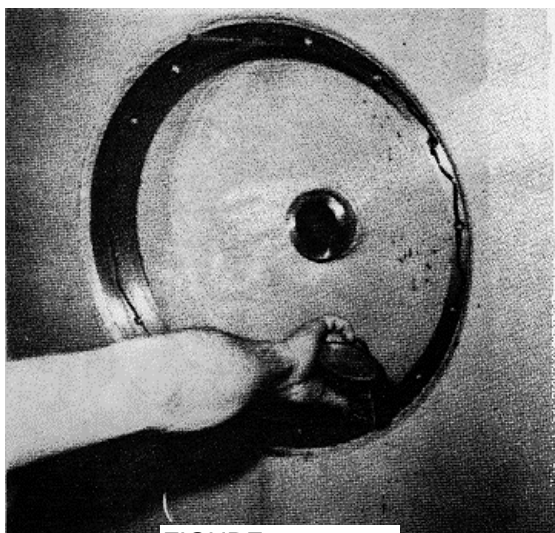

FIGURE 8-31.
l. Do the same to the mating machined surface of the drum (see figure 8-31).